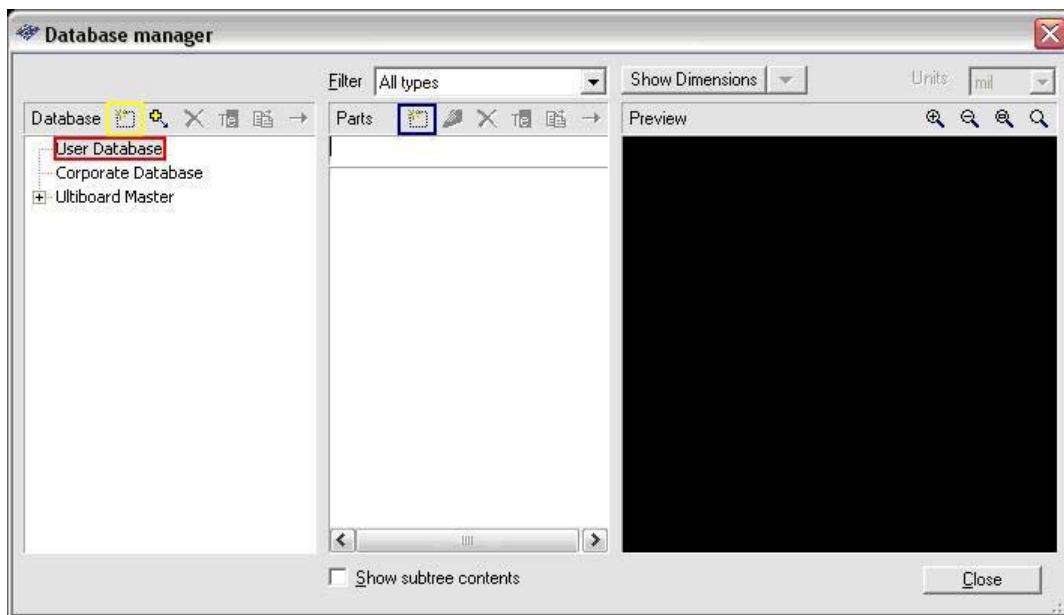
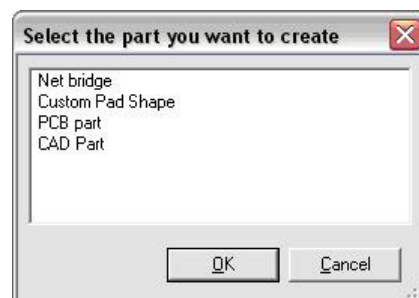

Figure 1 - Database Manager
Figure 2 - Select Part
a.) Select **Tools >> Database >> Database Manager** to display the Database Manager (Figure 1).
b.) In the Database Manager select the **User Database** (the red square in Figure 1 above).
c.) Select the New Database Group icon (the yellow square in Figure 1 above).
e.) Select the **Create a new part** icon (the blue square in Figure 1 above). NI Ultiboard will display a dialog box displaying the options of the type of component to create as displayed in Figure 2.
f.) Select the PCB part option in the dialog box shown in figure 2.